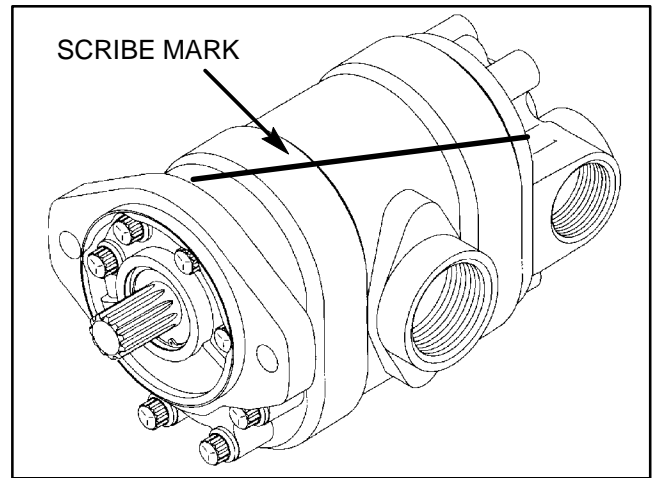

Figure 51
2. Make a scribe mark **diagonally** across the front plate, body, adapter plate, body, and back-up plate for reassembly purposes (Fig. 51).